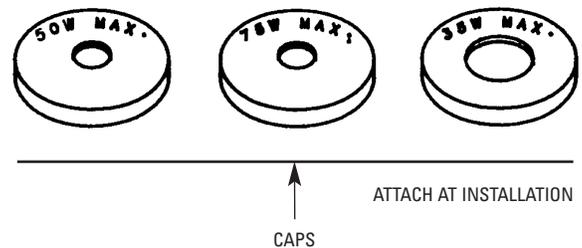

FIG. 2
2. Select the CAP with the same MAXIMUM WATTAGE marking and snap it over the FLANGE (Fig. 2).
NOTE: Use the 35W MAXIMUM WATTAGE LABEL and CAP for fixtures that have screw-in adapters (Fig. 2).